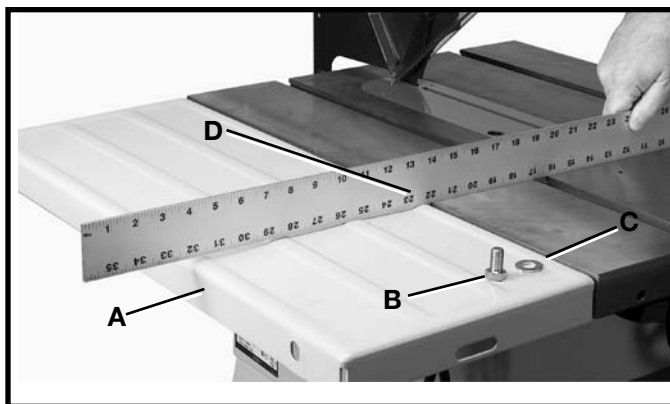

Fig. 37
1. Assemble extension wing (A) Fig. 37, to the saw table using three 7/16-20 x 3/4" screws (B) and flat washers (C) only one of each is shown.
2. With a straight edge (D) Fig. 37, make certain the extension wing (A) is level with the saw table before tightening three screws (B).